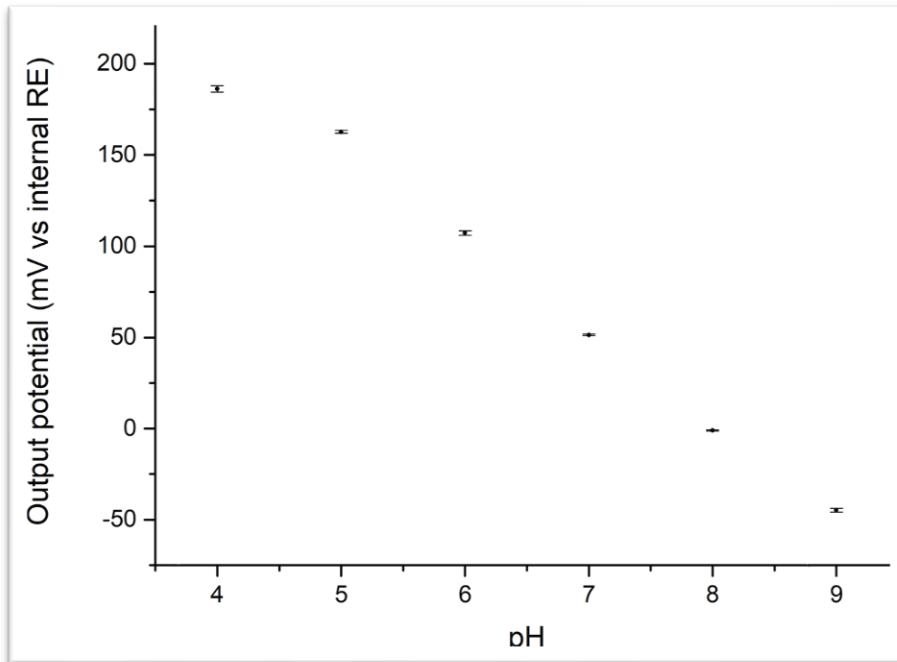

Fig.1 Output potential for sensors measured in different buffer solutions (no. sensors = 3) with varying chloride ion concentrations
The S-301 is a foil sensor with electrodes for electrochemical determination of pH of samples. The accensors pH-sensor consists of two electrodes (a pH-sensitive and a non-sensitive Ag/AgCl reference electrode) on a transparent PET foil. The readings are taken by measuring the open circuit potential/voltage between both electrodes. Potential (E) and pH have a linear relationship (between the operating range of pH 4.5 to pH 9) so the pH of an unknown analyte solution can be calculated using the pre-determined slope and an offset E value (E_0 determined by measuring the potential in a calibration buffer of known pH). The reference electrode and overall sensor can be used in analytes with different chloride concentrations thanks to a solid-state electrolyte layer (see Fig.1). Once used, the sensor must be kept hydrated for further application and not allowed to dry out.